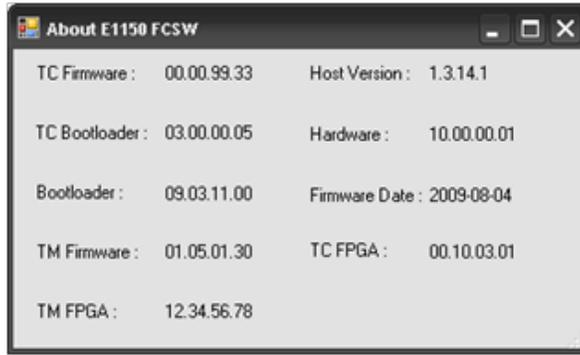

Figure 3 E1150 FCSW About Window
- To view the FCSW and E1150 Version information, click on **Help** and then **About** (Figure 3).
Note: The firmware version shown in Figure 3 is for example only. Your version information may be different.